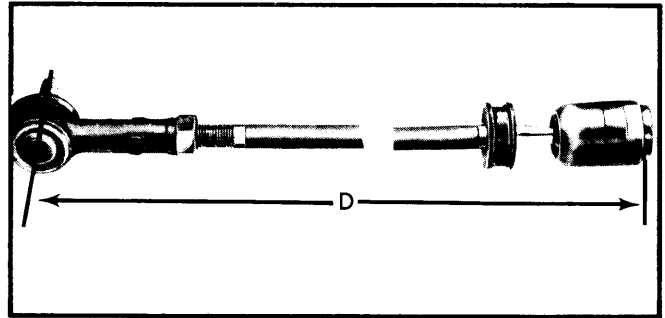

Fig. 4 Adjustment of Replacement Left Tie Rod (Part No. 171 419 804)
3) If replacing the non-adjustable left tie rod with adjustable type, adjust tie rod length "D" to 14.92" (379 mm) (see Fig. 4). Then install as described in step 1).